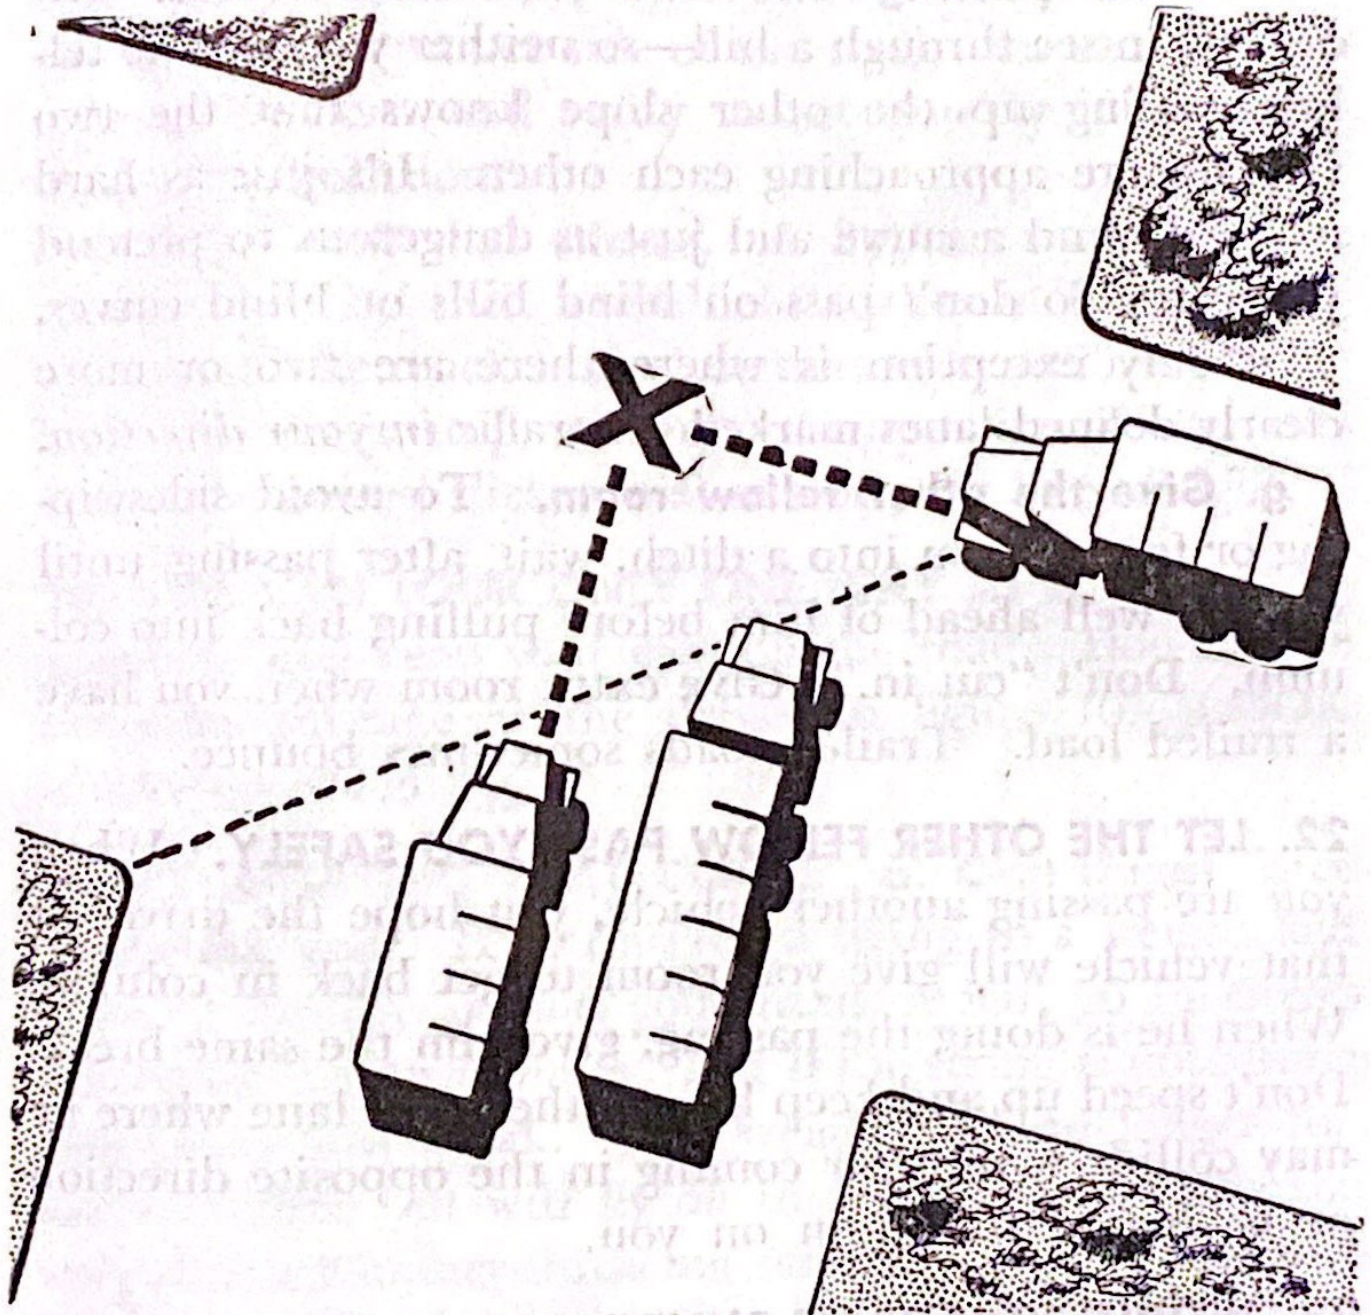

Figure 9. Don't pass at intersections.
e. You're blind when you pass at intersections. When you overtake and correctly pass another vehicle on its left, the vehicle which you are passing cuts off your sight toward the right. (See fig. 9.) Hence, to avoid collisions, don't pass where someone may shoot out of a blind space at your right. That means don't pass at intersections.